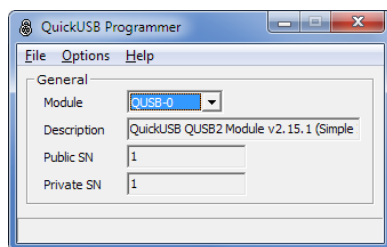

Figure 2 – QuickUSB Programmer
3. The programming process should take only a few seconds and its progress is indicated with a progress bar near the status bar. After the Firmware has been updated, you will be prompted to disconnect and reconnect the QuickUSB Module from the USB cable to load the firmware. If you have external power connected to the QuickUSB Evaluation Board, please remove it as well (See Figure 2).